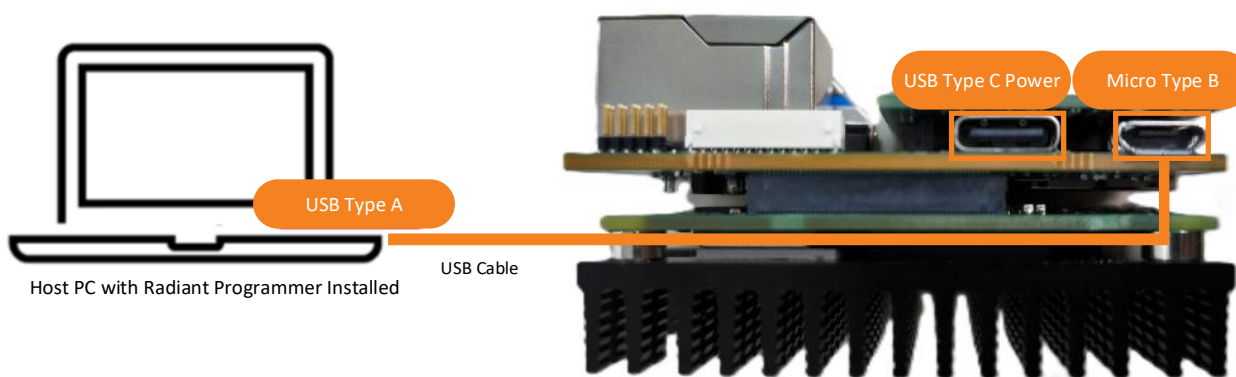

Figure 7.3. Hardware Setup for Bit File Programming
1. Connect the board to the PC using a USB Type A to Micro Type B cable, as shown in Figure 7.3. Connect the power adapter to the Raspberry Pi CM5 board and power on the adapter.